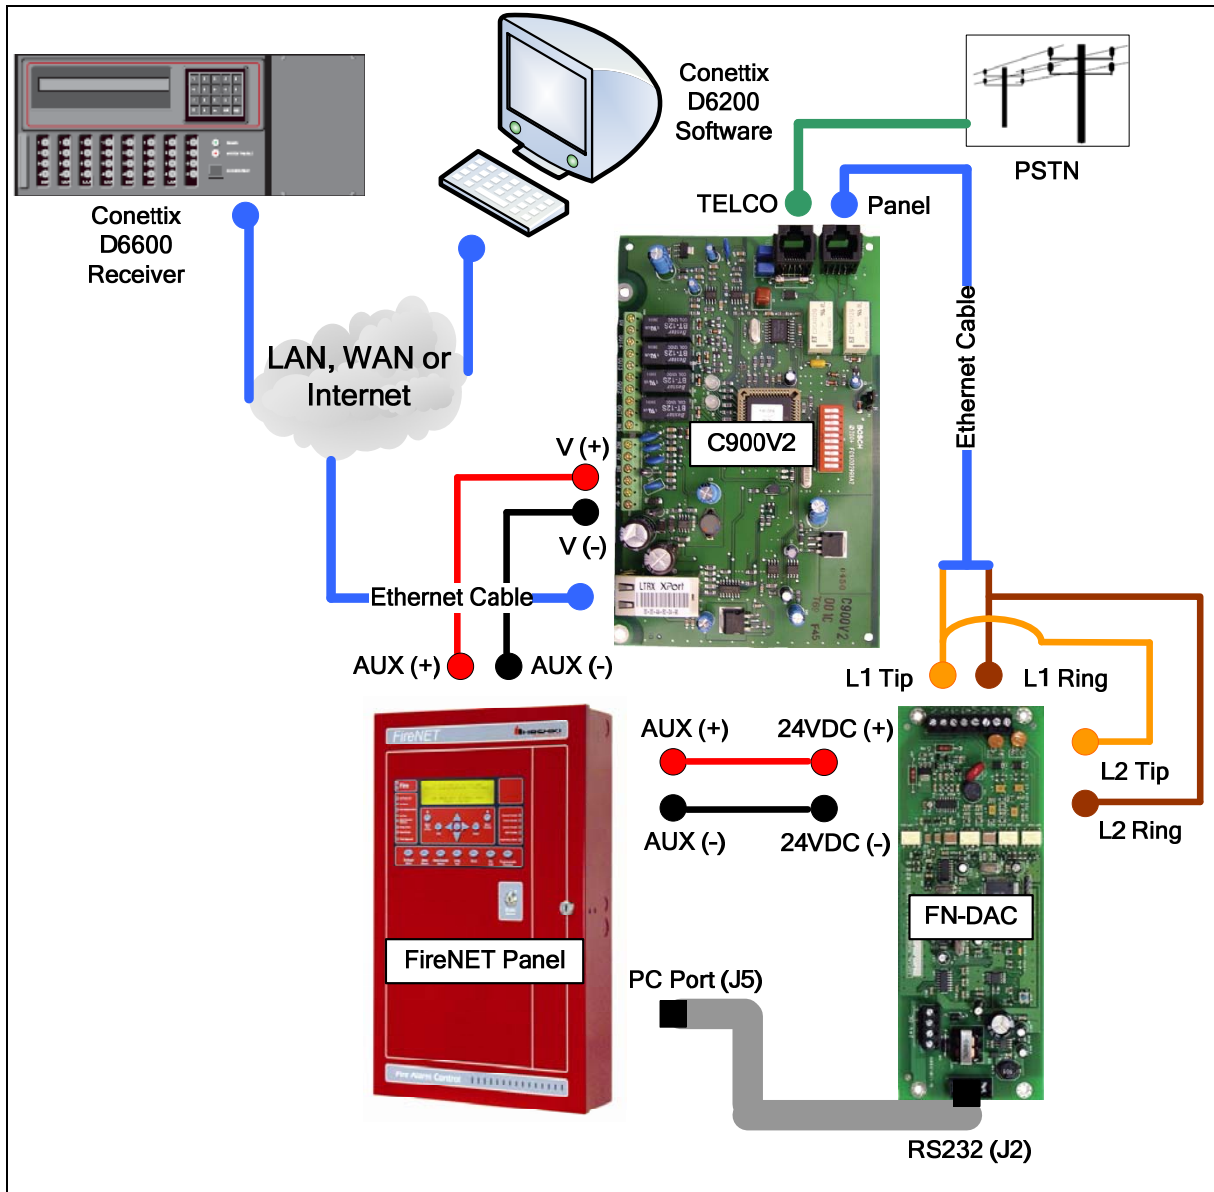

Figure 1
- ✓ FN-DAC's Tip 1 connects to Pin 4 of the Ethernet Cable and Ring 1 connects to Pin 5 of the Ethernet cable for phone line 1 connection. Refer to Figure 1.
- ✓ Connect a jumper from FN-DAC's Tip 2 to Tip 1 and Ring 2 to Ring 1, which allows proper supervision of phone line 1 and 2. Refer to Figure 1.
- ✓ The CAT6 Ethernet cable connects to C900V2's "Panel Jack" for Primary phone line. Refer to Figure 1
- ✓ Connect TELCO jack to a telephone line. Refer to Figure 1
In order to fully supervise both "CPU failure" and "Network Failure" from the C900V2 follow below programming instructions and wiring diagram on figure 1: